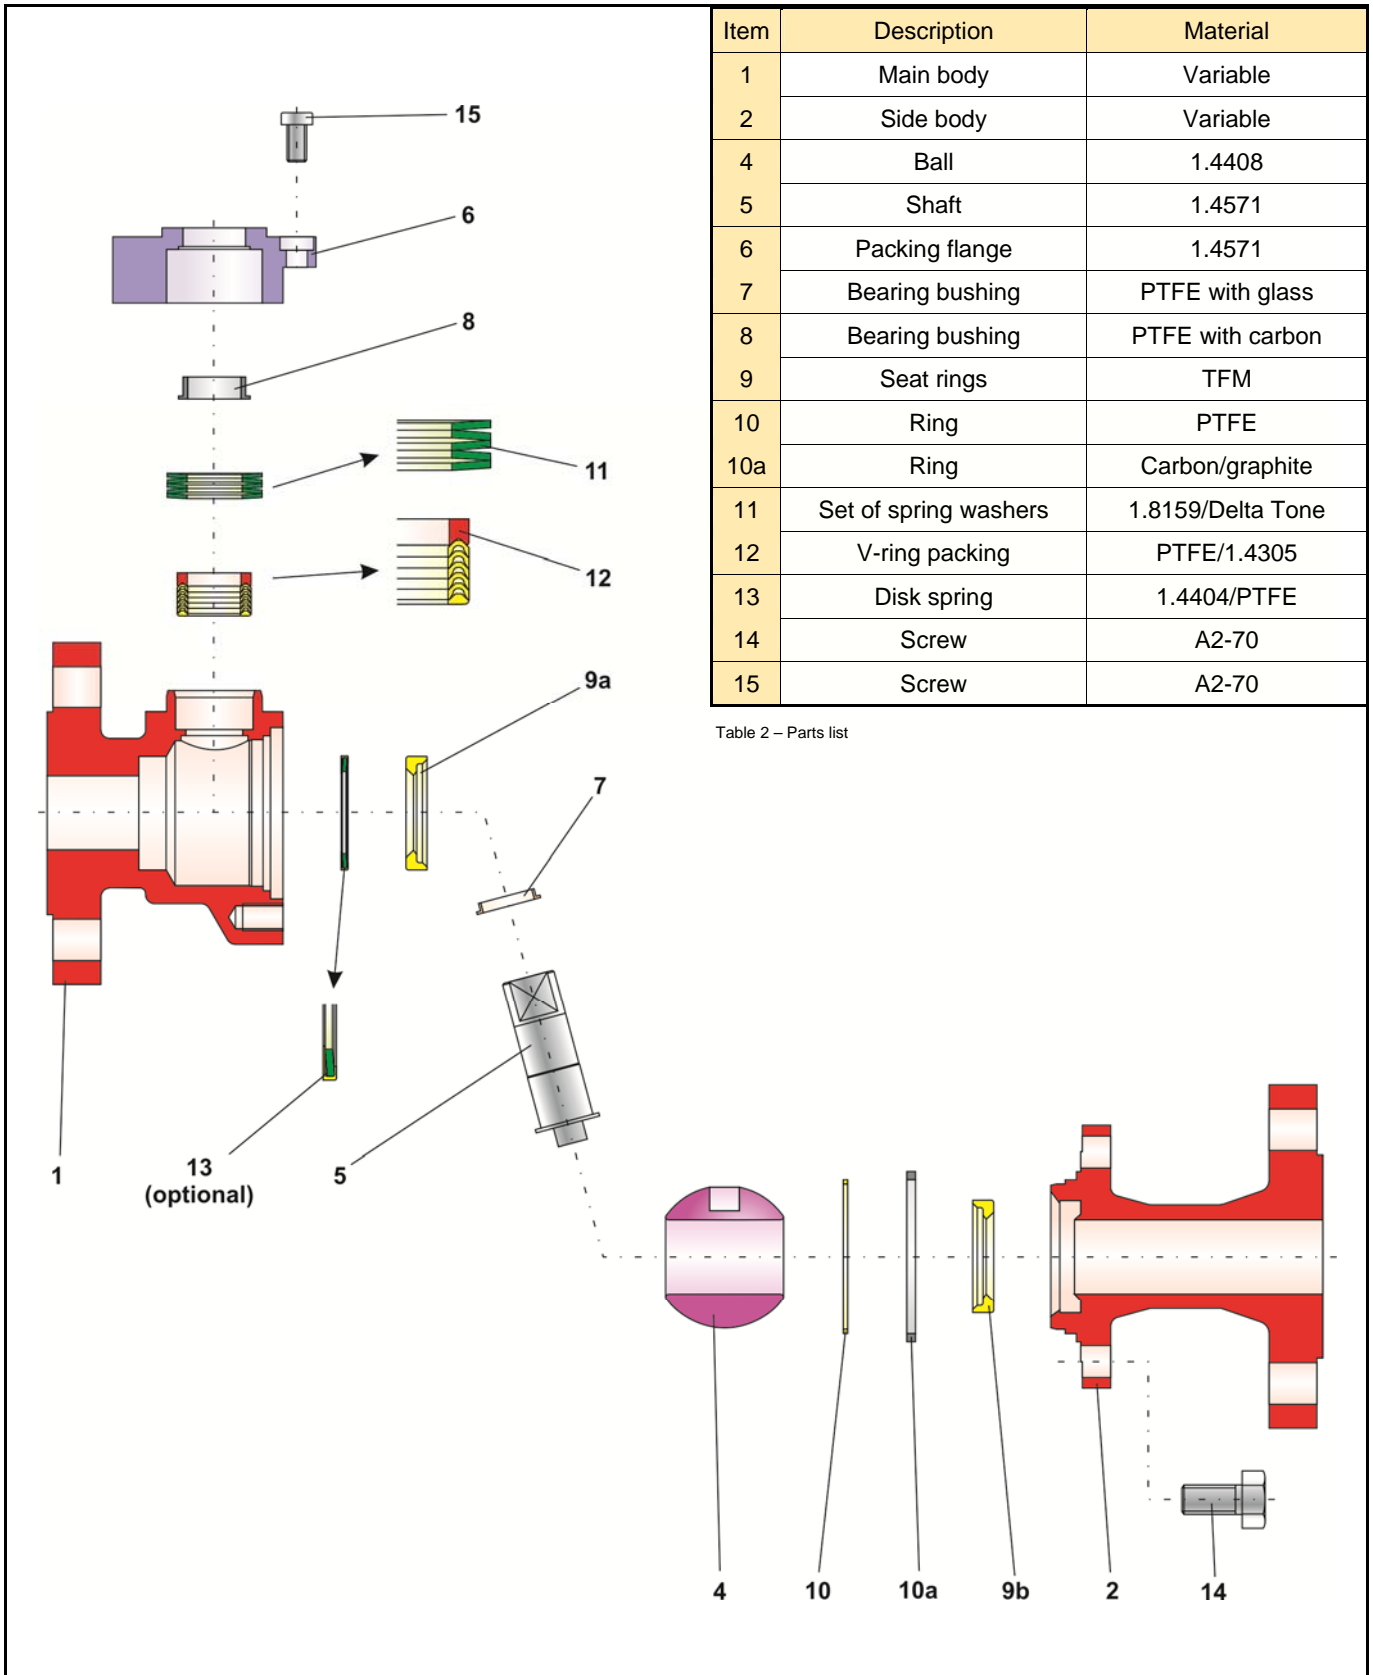

Fig. 5 - Detail drawing of standard version of Series 26a Ball Valve
Insert the encapsulated disk springs (13) into the main body (1). Refer to Fig. 5 for the arrangement of the disk springs. Press the seat ring (9a) until it touches the disk springs.
Slide the parts of the V-ring packing (12), turning them slightly, over the mounted shaft (5) and insert them into the packing seat of the main body (1). Refer to Fig. 5 for the arrangement of the V-rings.
Refer to Fig. 5 for the arrangement of the spring washers.